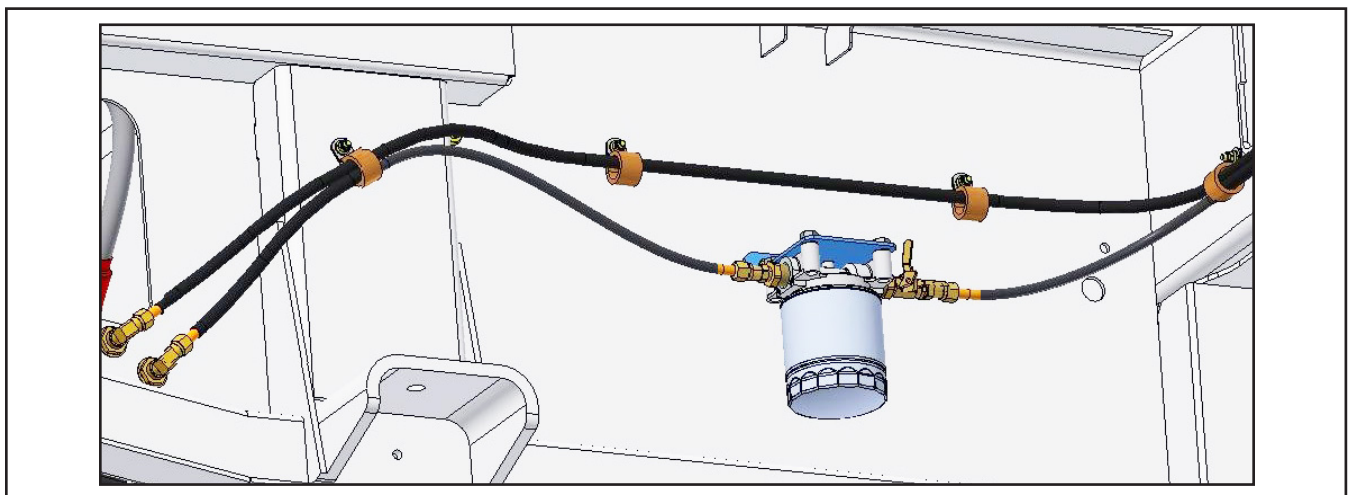

Figure 7 - Connect the Cut Fuel Hose and Loom (Some Components Removed for Clarity)
- 1.13. Cut the loom and the hose of the supply fuel line and connect each section on each side of the fuel filter head as show in Figure 7. **A certain amount of fuel will spill.**